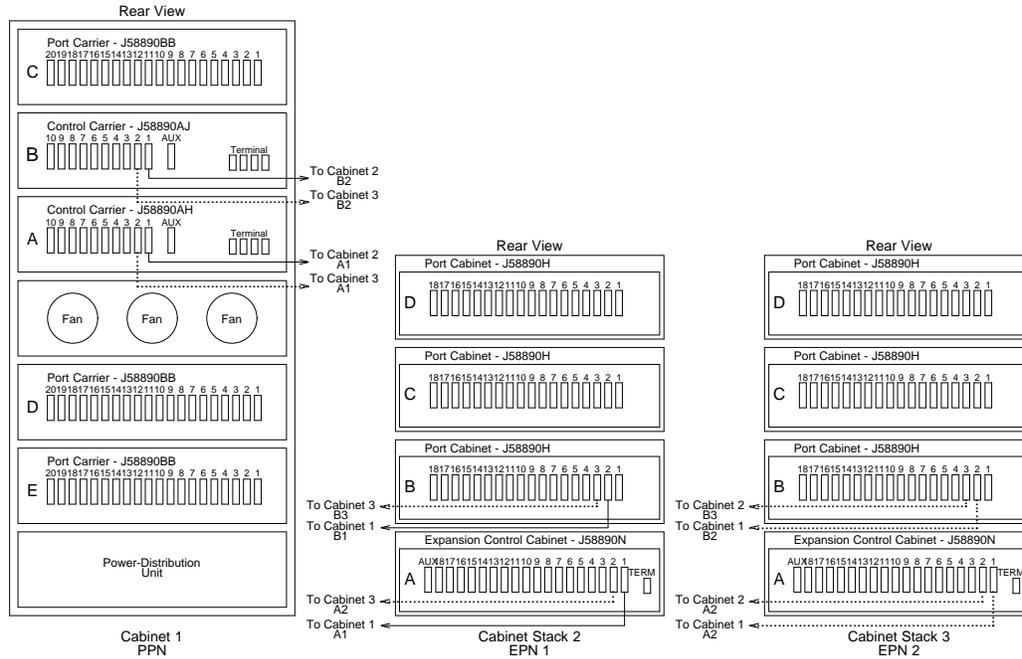
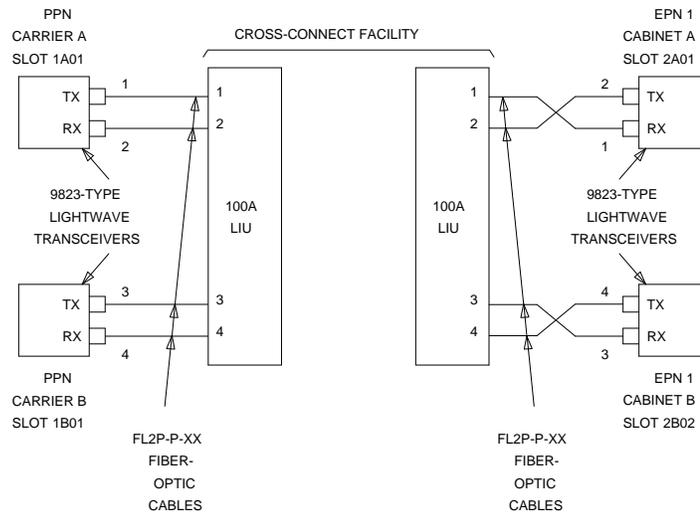
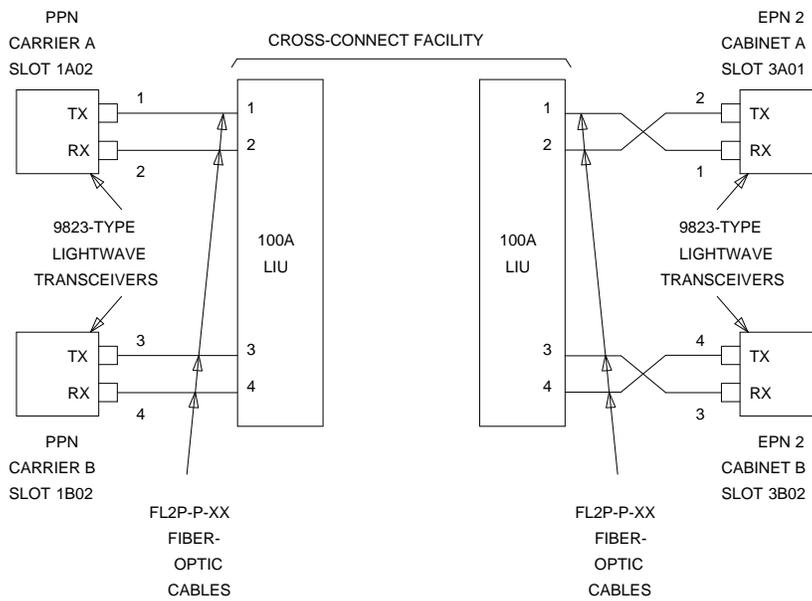
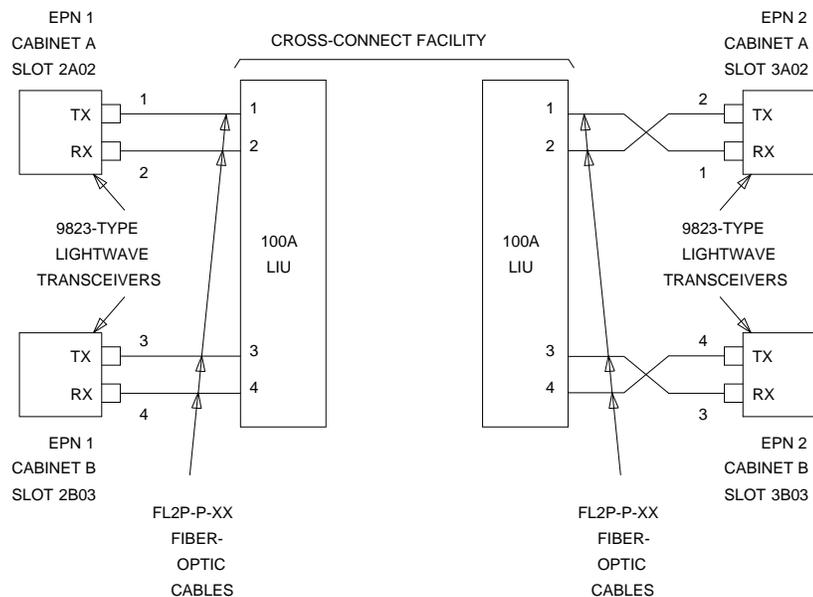

Figure 8-32. Critical-Reliability G3i V4 with Two or Three Port Networks
Figure 8-33. Fiber-Optic Connections PPN to EPN1
Figure 8-34. Fiber-Optic Connections PPN to EPN2
Figure 8-35. Fiber-Optic Connections EPN1 to EPN2
1. Behind port carrier C of the multicarrier PPN (Figure 8-32 on page 8-66, Figure 8-33, Figure 8-34, and Figure 8-35):